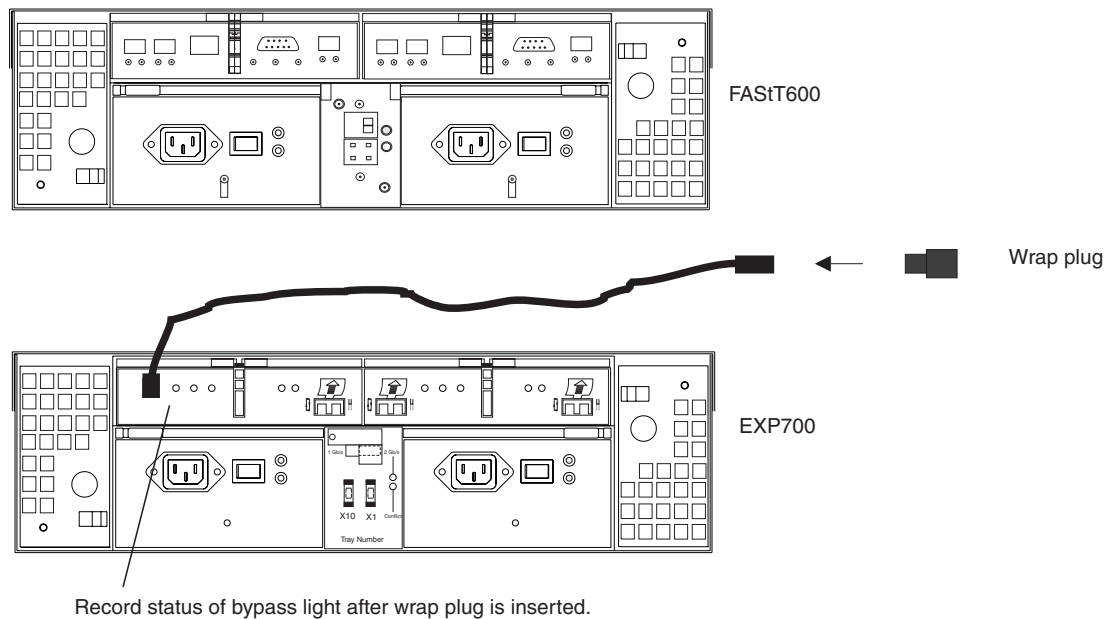

Figure 161. Inserting a wrap plug onto a copper cable
- Insert the FC copper cable wrap plug into the unplugged cable end. See Figure 161. Record the state of the port bypass light on the end where the FC copper cable is still inserted.